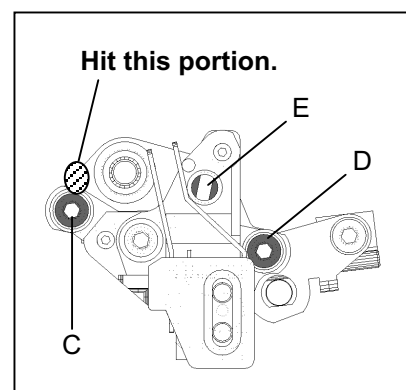

Figure 1-13-3
6. After tightening the every screws on the A/C Head, hit the top plate (portion as shown in figure 1-13-3) of A/C Head lightly, then confirm the phase is not shifted finally.